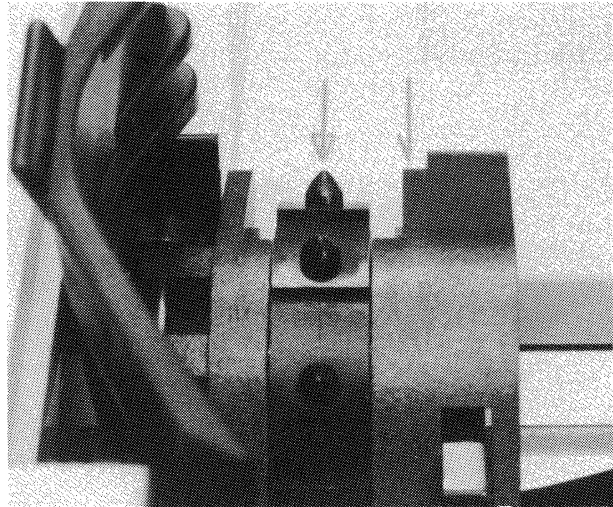

Figure 2-5B Left Tractor Alignment
3. Align the sprocket pins with the full-headed arrow (Figure 2-5B). Lock the tractor lever.